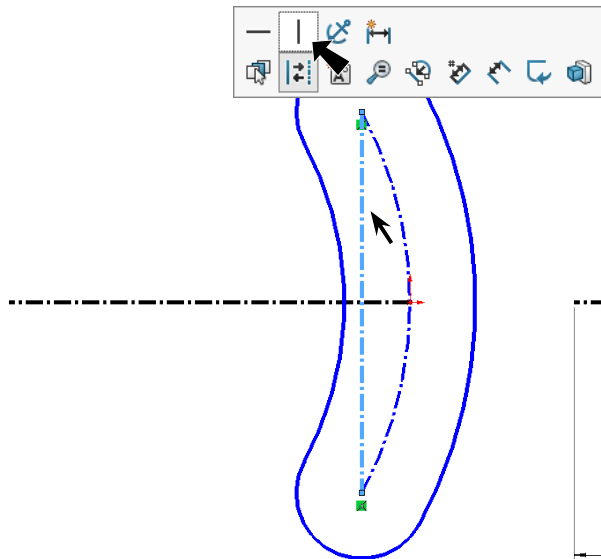

Fig. 6
Step 10. Click centerline at slot centerarc endpoints and click **Make Vertical**  on the context toolbar, **Fig. 6**.